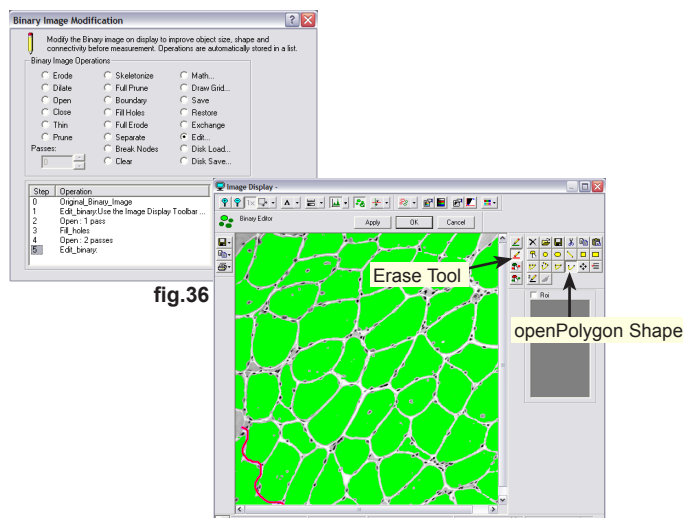

fig.36
7. Click the **Modify** icon in the **Task** toolbar. The **Modify** window appears (fig.36). Click **Edit > press on the Open polygon shape** and the **Erase tool > Erase any connection between the fibers by drawing a line across the connection > Click Apply to preview and OK when finish**. In the **Binary Modification** window, click **Open** to remove small links between the fibers > **Fill Holes** to ensure each fiber is solid > **Open**, apply two passes.